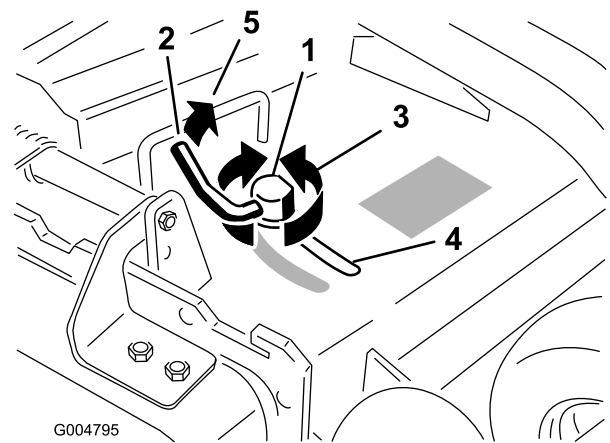

Figure 16
- To adjust the cam lock, swing the lever up to loosen the cam lock (Figure 16).
- Swing the lever back over to tighten the baffle and cam lock (Figure 16).